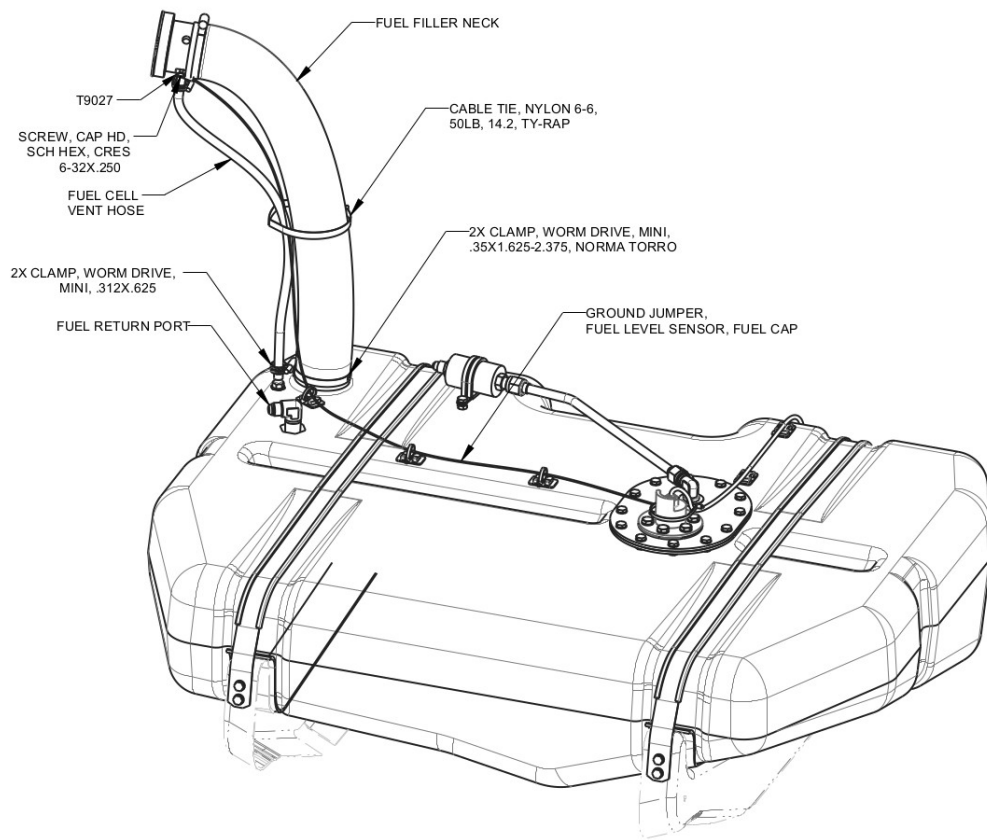

FIGURE 11-3
10. Remove #6-32 screw securing the T9027 terminal on the fuel cap adapter. (See Figure 11-3.)
13. Disconnect fuel return line from the elbow fuel return port in the tank using a 11/16 wrench. (See Figure 11-3.)
15. Remove worm drive clams from both ends of the fuel filler neck. (See Figure 11-3.)
17. Disconnect fuel sump hose by prying off its clamp and pulling the hose off the barb. (See Figure 11-3.) Remove fuel filler hose completely.